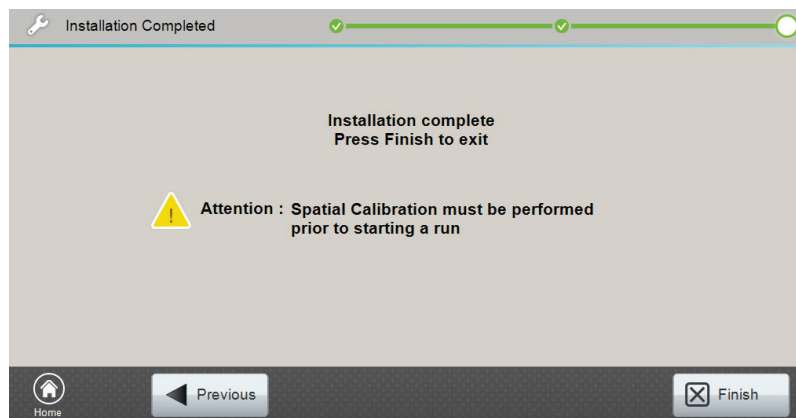

Figure 38. 'Capillary Cartridge Installation Completed' screen.
- The Installation Completed screen for the Spectrum Compact Capillary Cartridge is displayed (Figure 38). This screen states that a spatial calibration must be performed prior to starting a run with the new Spectrum Compact Capillary Cartridge (see Section 4.1).
- Select **Finish** on the 'Installation Completed' screen (Figure 38).
6. Select **Finish** on the 'Installation Completed' screen (Figure 38).